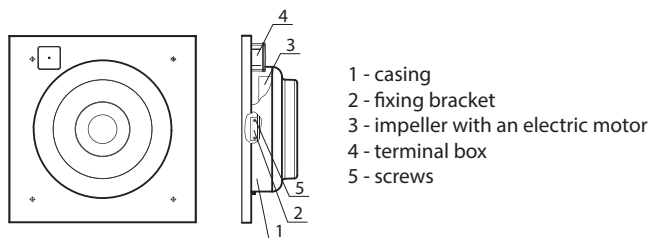

Fig. 7
**The VC-VN/VCz-VN fan** (Fig. 7) consists of the casing 1. The electric motor and the impeller 3 are mounted inside the casing using the fixing bracket 2. The casing is attached to the base plate with screws 5.
VC-VN/VCz-VN (Fig. 7)